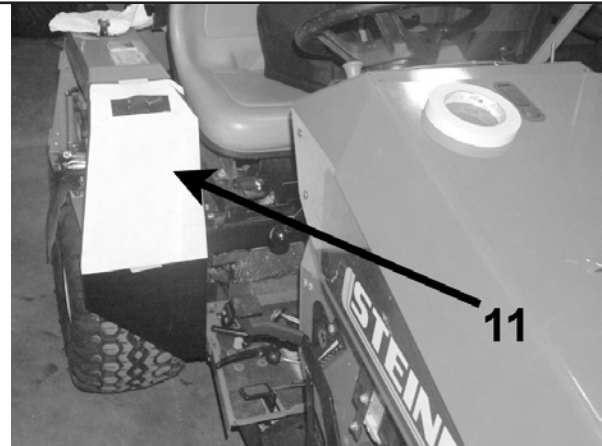

Figure 1
1. Cut along lines of template **11** with a scissors. Align cut edges with bottom and inside edge of the battery box. Center punch on the center line marks of the three holes. Drill the top two holes to $\varnothing.344$ (11/32). Drill the bottom hole to $\varnothing.390$ (25/64). (**Figure 1**)